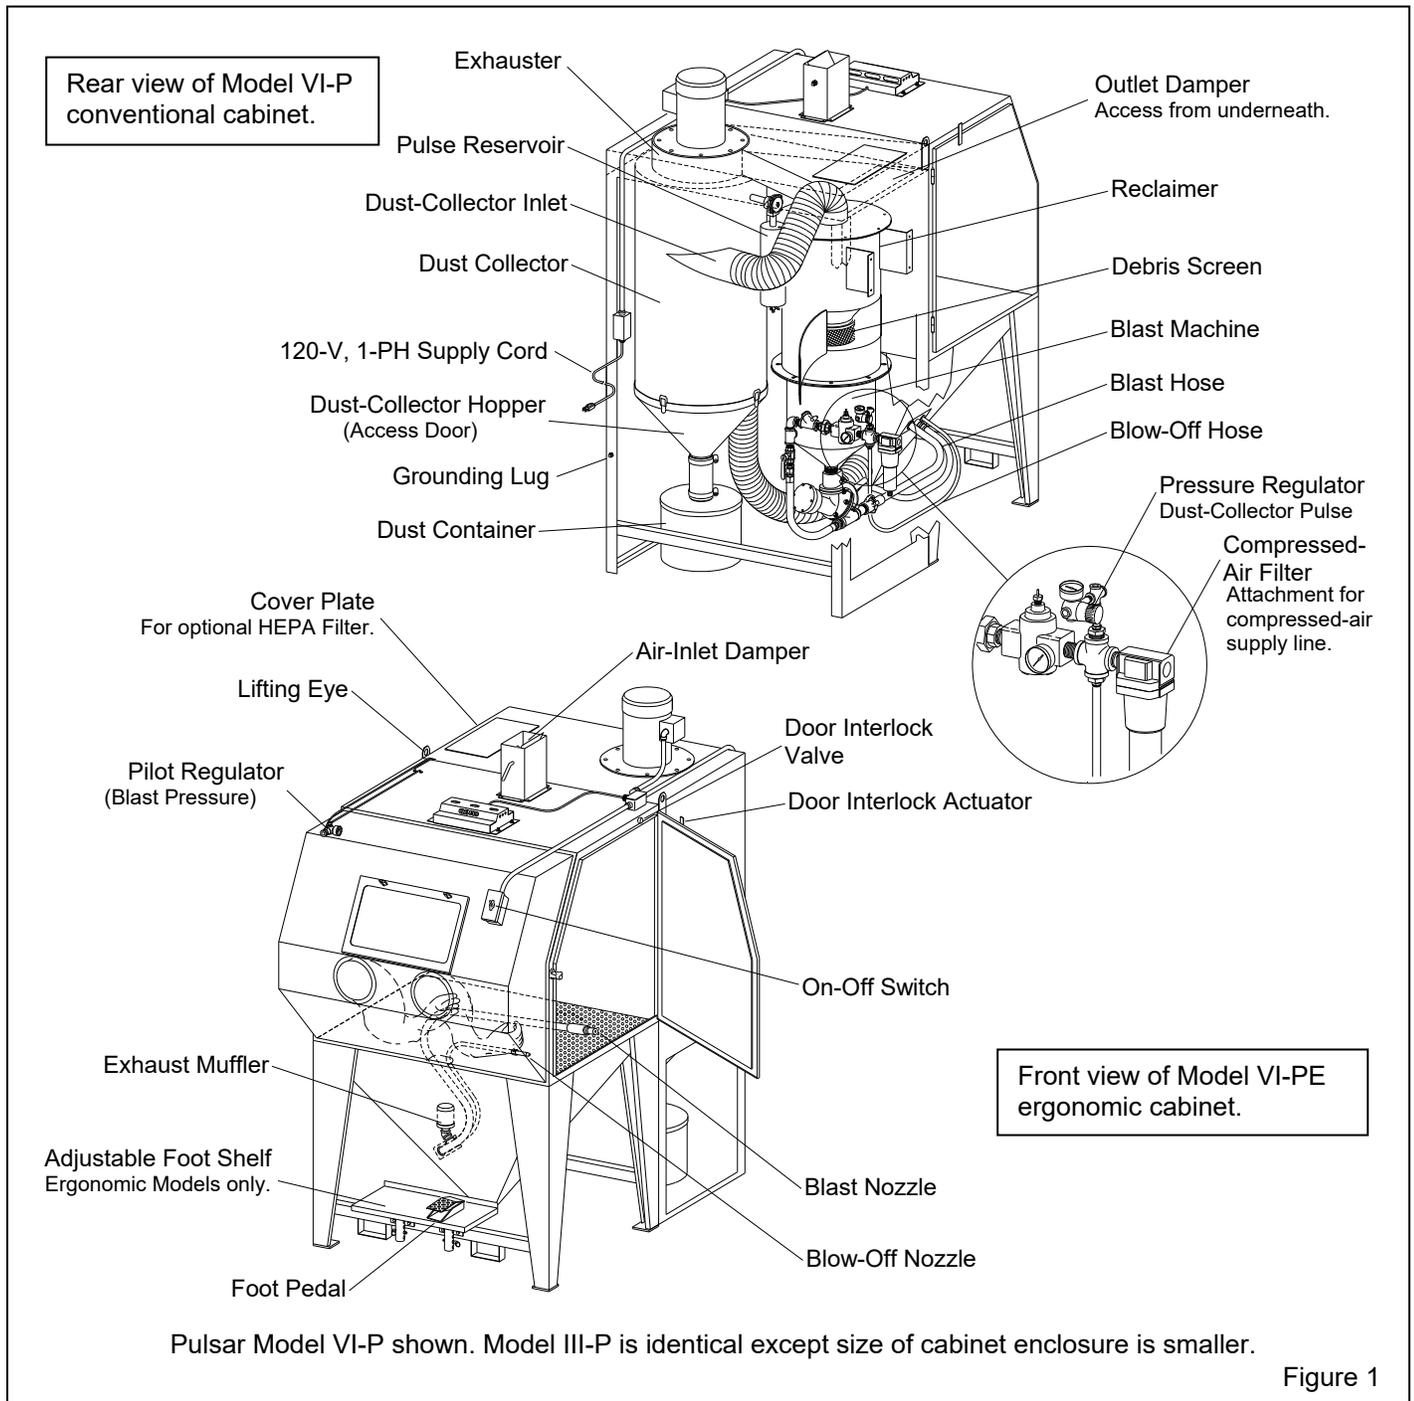

Figure 1
**1.4.1** Pulsar Pressure Cabinets enclose the blasting environment to provide efficient blasting while maintaining a clean surrounding work area. Production rates are influenced by size of nozzle, compressor output, working pressure, type and size of media, and angle and distance of the nozzle from the blast surface. Refer to Figure 1 for arrangement of components. Pulsar Pressure Cabinets consist of two major components:
**2.1.1** Refer to Figure 1 for the general arrangement. Select a location where compressed air and electrical service are available. The cabinet location must comply with OSHA and local safety codes. Allow for full access to all doors and service areas and for efficient handling of large parts.